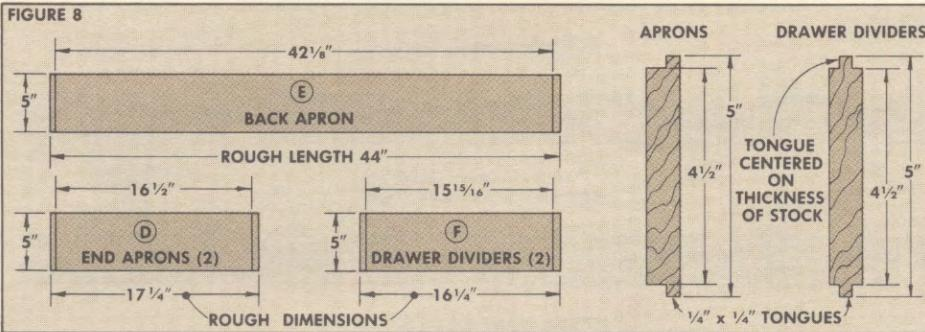
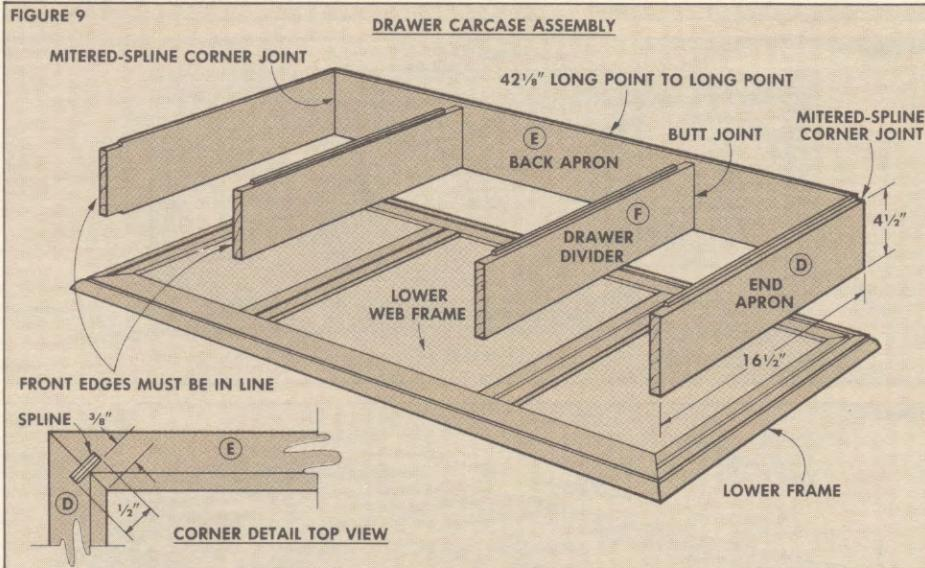

FIGURE 9
FIGURE 10
Aprons and drawer dividers are used to connect the two web frames, and complete the drawer carcase assembly, see Fig. 9. I started by cutting the aprons (D and E), and the drawer dividers (F) 5" wide, and to rough lengths, see Fig. 8.
MITERS. The back corners of the aprons are joined with a mitered spline joint to help keep everything lined up during assembly. Miter the back corners of the side aprons so the tongue is on the heel side of the miter, see Fig. 9. Then the front edge on both end aprons is trimmed so the overall length is $16\frac{1}{2}$ ". Also, trim back the tongue on the aprons to fit the grooves in the frames, see Fig. 10.
MITERED SPLINE. While the saw is still set at 45° , cut $\frac{1}{4}$ "-deep kerf on the face of the miters for the $\frac{1}{8}$ " thick Masonite splines, see Detail in Fig. 9.
DRAWER GUIDES. To complete the drawer carcase, I cut $\frac{1}{8}$ " x $\frac{3}{4}$ " drawer guides, and glued them to the end aprons and drawer dividers as shown in Fig. 10 & 11. Although all the parts for the drawer carcase are finished at this point, it's not assembled until after the kickboard assembly and the main box are built.